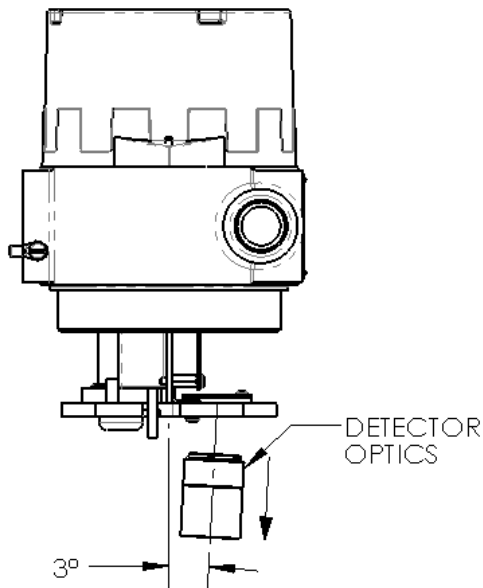

Figure 3
5. Remove the detector optics assembly. See Figure 3.